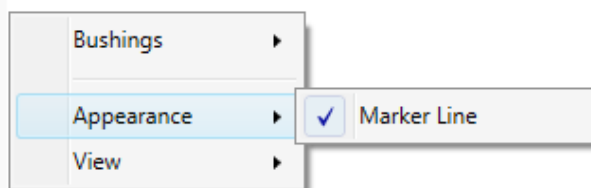

Figure 4-67: Appearance shortcut menu
- The Appearance option toggles the Marker Line On or Off as shown in Figure 4-67.